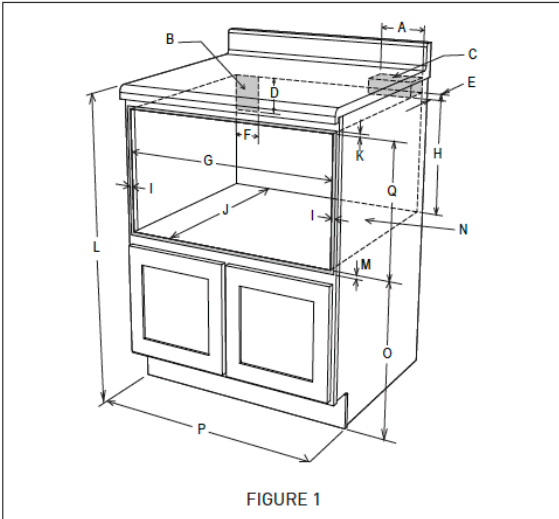

FIGURE 1
- For SAFETY CONSIDERATIONS do not install drawer in any combustible cabinetry, which is not in accord with the stated clearances and dimensions on page 4, See figure 1.
- Dimensions that are shown in figure 1 must be used. Given dimensions provide minimum clearance. Locate electrical outlet in the shaded area in the upper left-hand corner of the cutout. See figure 4.
Figures 1 and 2 contain many Drawer Microwave measurements for reference when planning the drawer's location. This Drawer Microwave can be installed below any electric or gas wall oven.